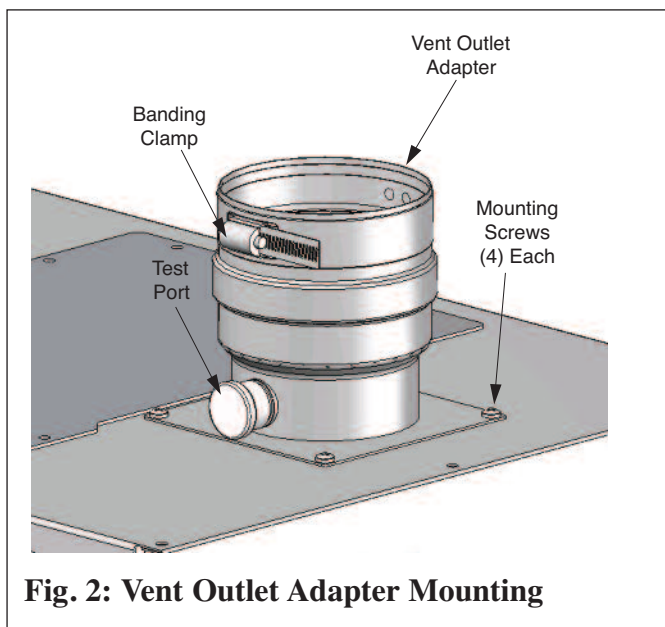

Fig. 2: Vent Outlet Adapter Mounting
1. Use a flat head screw driver to loosen the banding clamp located on the vent outlet adapter. (Fig. 2).
1. Dismount the vent outlet adapter from top of boiler cabinet by removing the 4 mounting screws. Do not discard the mounting screws and vent outlet adapter as they will be reused. (Fig. 2)